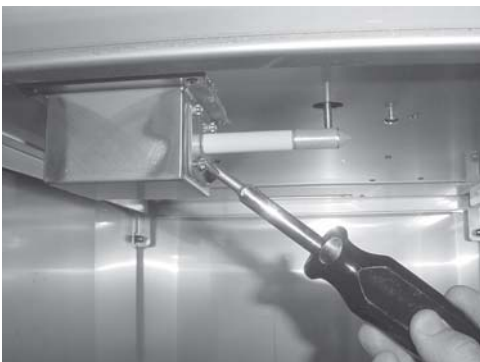

Figure 3-2
3. Using a Phillip's head screwdriver, remove the 4 screws securing the sensor to the box. Figure 3-2.